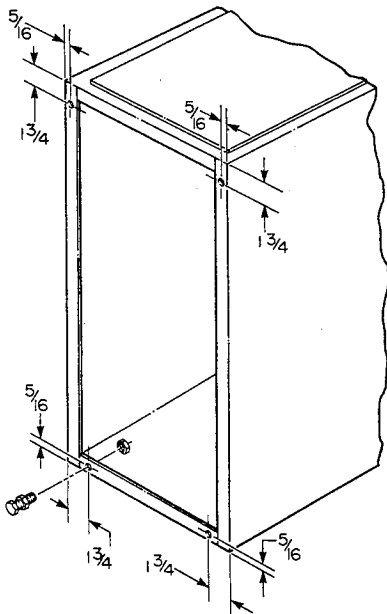

Fig. 6—Leveling Leg Installation
When the furnace is used with side inlet(s) and leveling legs are required, refer to Fig. 6 and install field-supplied corrosion-resistant 5/16-in. machine bolts and nuts.
1. Lay furnace on its back, locate and drill 5/16-in. diameter hole in each bottom corner of furnace as shown in Fig. 6.